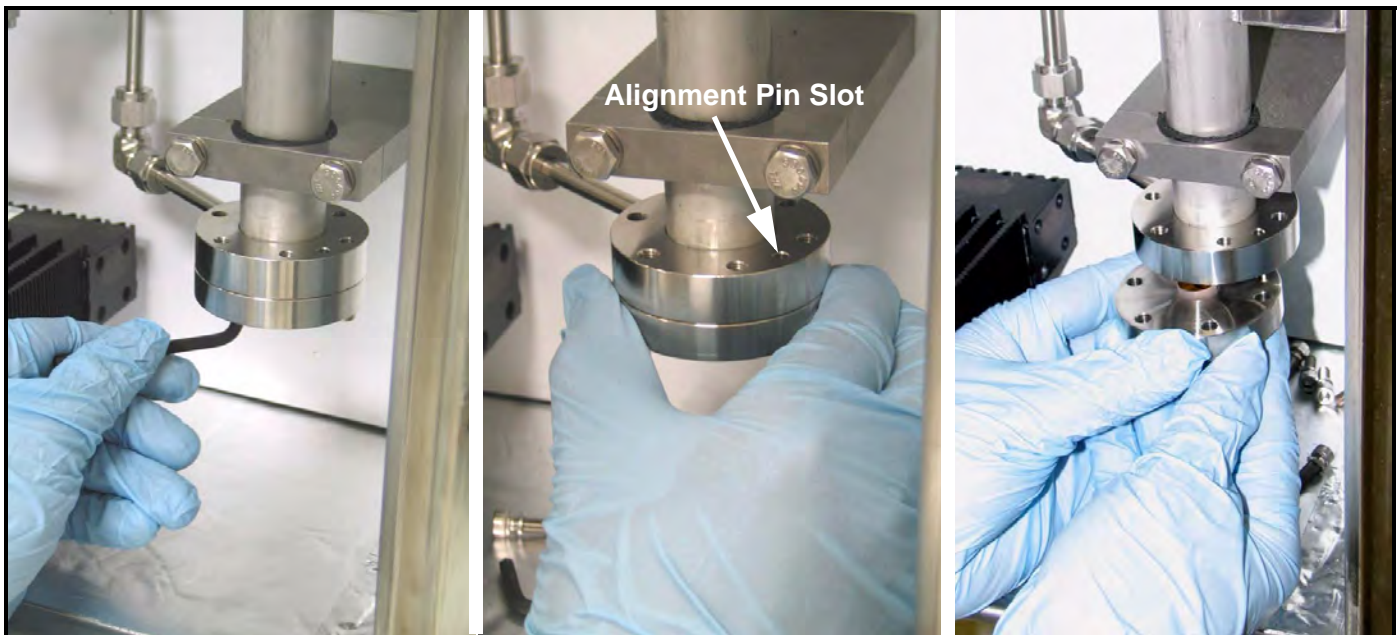

Figure 74: Removing the Aurora H2O Mirror
4. Remove the 6 hex bolts securing the mirror (see Figure 74). A 5/32 inch allen wrench is required to accomplish this task. Hold the stainless steel base of the mirror with one hand while removing the last retaining bolts. The mirror is removed straight down. There is one alignment pin which will facilitate proper removal.